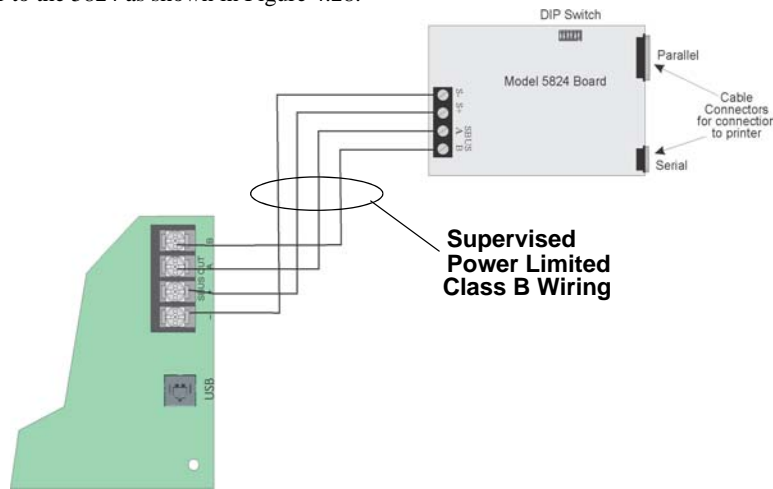

Figure 4.28 5824 Connection to the Panel
- Connect the 5824 to the panel as shown in Figure 4.28.
5. Connect a printer to the 5824 as shown in Figure 4.28.